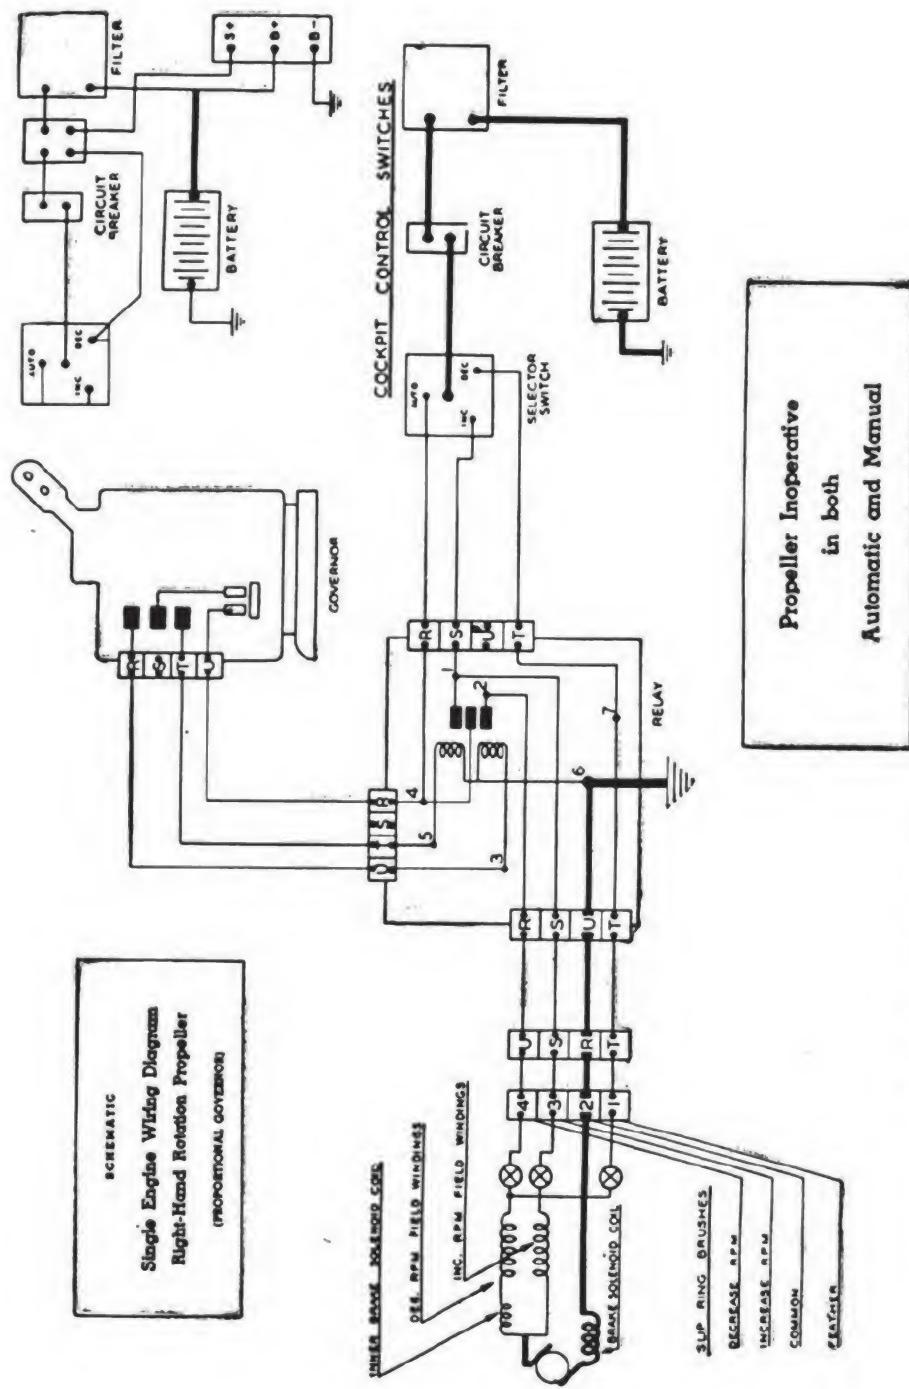

Figure 73.—Propeller inoperative in both automatic and manual.
- Propeller inoperative in both automatic constant speed control increase rpm, and in selective fixed pitch control increase rpm circuits. All other circuits operate. (See fig. 73.)
Propeller inoperative in both automatic constant speed control increase rpm, and in selective fixed pitch control increase rpm circuits. All other circuits operate. (See fig. 73.)